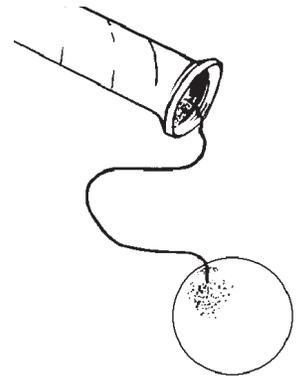

Figure 19
4. Carefully, ease the plastic insert into the end of the body tube (Figure 19). If the plastic insert fits loosely in the body tube, put some tape around the insert to make it snug.